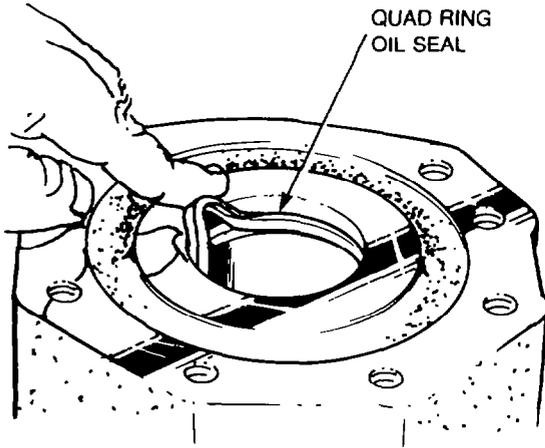

Figure 285 — Quad Ring Seal — Installation
- Install a new Quad ring, seal in the groove of the gear housing. The Quad ring seal may appear to be too large, but it will fit into the groove (see Fig. 285).